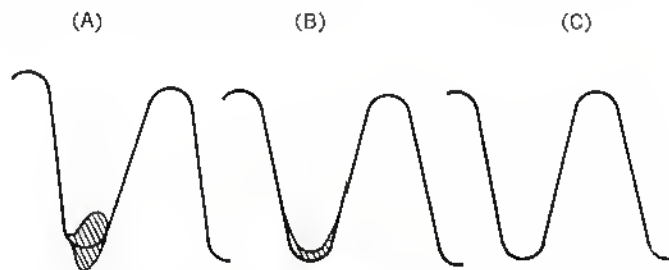

Fig. 51 Wave-form TP306 for over-all adjustment of modulator and demodulator.
13. Adjust the output of SSG and set it at the position just before the phenomenon as shown in Fig. 51-A happens, on the output wave-form at TP306.
14. The output wave-form at the above point is to be found as Fig. 51-B, so adjust the R313, R34B, and R355 to obtain the wave-form as shown in Fig. 51-C.